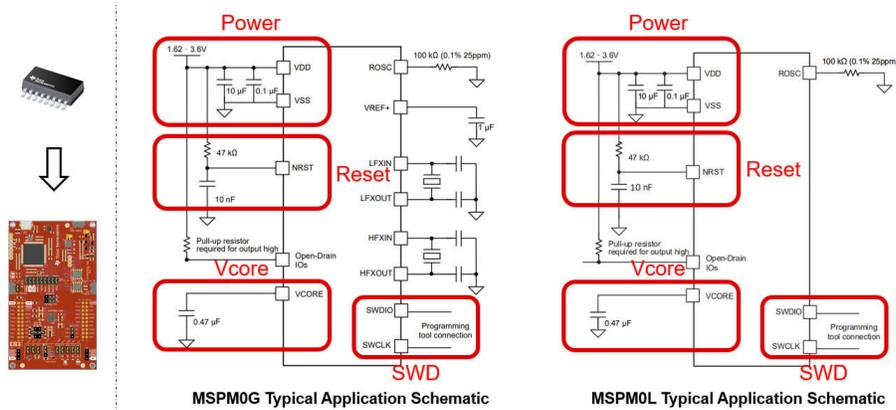

Figure 2-39. MSPM0 Minimum System
3. As for MSPM0 hardware design into your own board. Figure 2-39 shows a sample minimal system design.